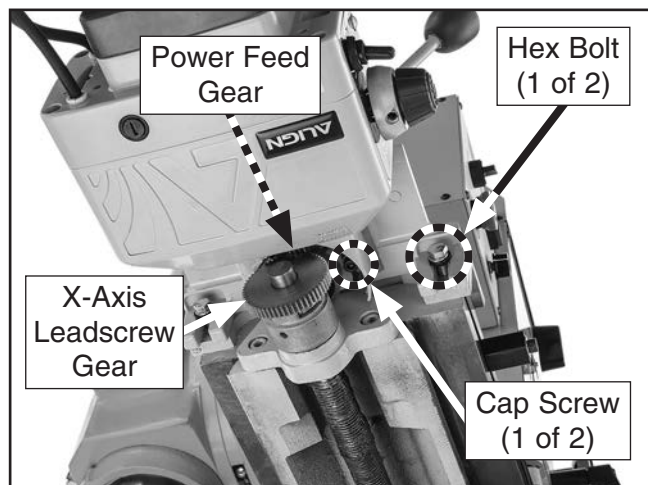

Figure 24. Left side of power feed bracket with attached power feed unit mounted to right side of bracket.
10. Install power feed unit onto right side of bracket assembly and temporarily tighten hex bolts (see **Figure 24**).
11. Move power feed unit until power feed gear teeth align with X-axis leadscrew gear teeth, then tighten cap screws from **Step 8** (see **Figure 24**).
12. Loosen hex bolts from **Step 10**, adjust power feed unit until power feed gear meshes with X-axis leadscrew gear, then fully tighten hex bolts (see **Figure 24**).